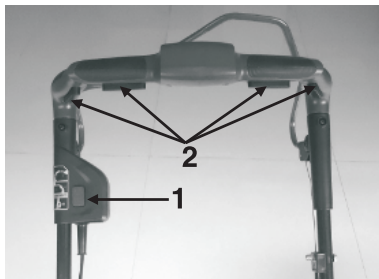

Fig.11
If you release switch button (2) depressed, the motor will stop. (Fig.11)